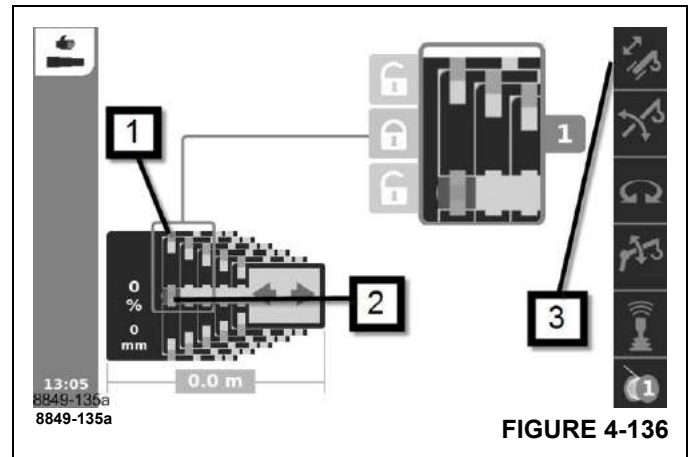

FIGURE 4-136
- Telescoping mechanism on – symbol (3), (Figure 4-136) green.
- Telescoping cylinder locked – symbol (2), (Figure 4-136) green.
- Telescopic section locked – symbol (1), (Figure 4-136) green.